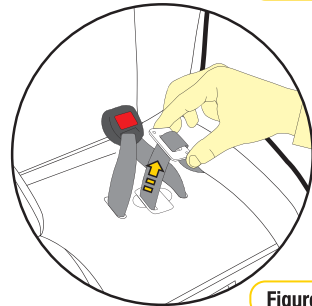

Figure 3
Step 3: Lift the adjustment plate (refer Figure 3).